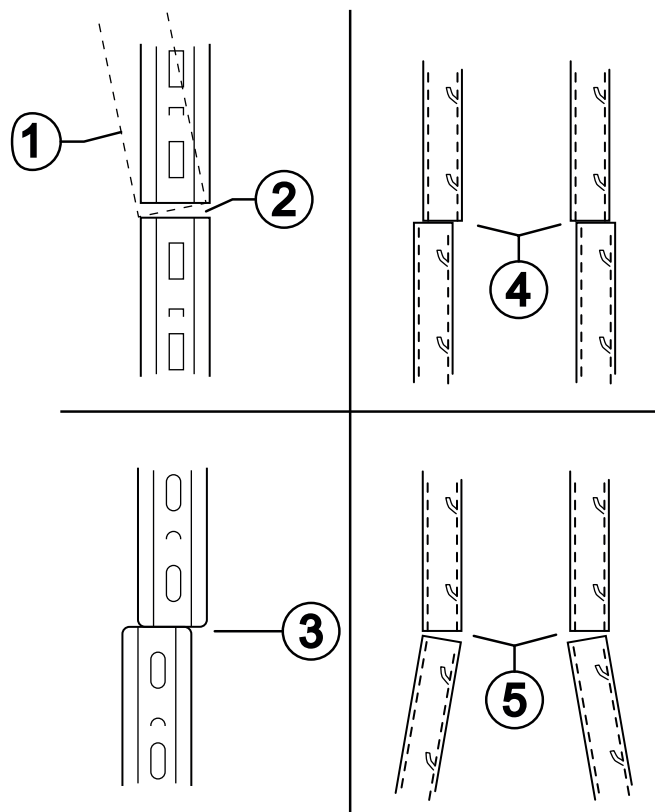

Fig. 17 Improper alignment and abutment of adjacent rail sections
The second rung clamp is secured in the same way. A final check is made to assure the butt joint between rails is tight and that the rail alignment is correct. See Figures 17 and 18. Then torque all nuts in accordance with torque limits in section 3.6.
After finishing assembly of the rail in accordance with the above, make a final check as follows. Take a bearing on the vertical alignment of all rail sections. If the alignment is not straight, adjustment must be made. All abutments of rail sections must be tight. See Figure 17 and 18. If there is misalignment or gaps between rail sections the fall arrester will not run smoothly and excessive wear of the fall arrester will result. If one rail section is moved downward to close a gap, all rail sections above it must also be moved accordingly.
- b) Check tightness and alignment of butt joints between rail sections. See Figure 17 and 18. Make the necessary adjustment. This may necessitate adjusting several rail sections after the first joint is corrected. Be sure alignment of rails is preserved.